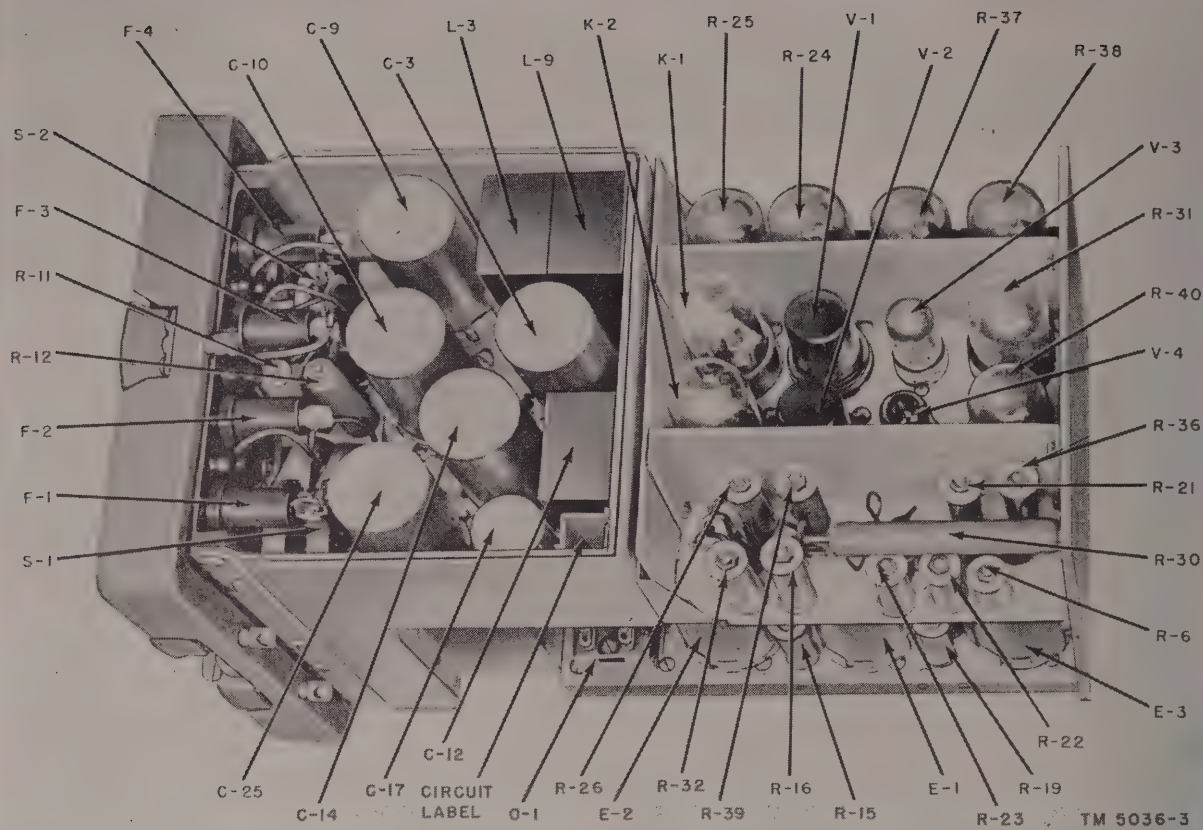

Figure 44. Power Supply PP-112/GR, top view of chassis.
- (4) A high reading for all filaments on positions 7 through 11 may be due to a faulty V-1. A high reading on position 2 through 6 may be due to a faulty V-11. A low reading for all tubes may be due to the operation of the overload relay in the power supply or trouble in the power supply itself. Turn the equipment off for a full minute to allow the thermal relay to cool if it has operated because of a momentary overload. If after turning the equipment on, a fault is still indicated, continue with the following checks. Check fuse F-1, thermal relay K-2, and ballast tubes R-31 and R-40 in the power supply if readings are low on positions 7 through 11. (Ballast tube R-40 is included only in Power Supply PP-112/GR.) If all the readings are very low or zero on positions 2 through 6, check fuse F-1, thermal relay K-1, and ballast tubes R-24, R-25, R-37, and R-38 in the power supply (figs. 44 and 45). (Ballast tubes R-37 and R-38 are included in Power Supply PP-112/GR only.)
b. THERMAL RELAYS AND BALLAST TUBES. To gain access to the thermal relays and ballast tubes, it is necessary to remove the panel-chassis assembly from the case (par. 96). All of these parts are accessible from the top of the chassis (figs. 44 and 45). Remove the relays or ballast tubes by a straight upward pull. Do not rock or jiggle the components in their sockets. (Note that similarly designated parts are located differently in the 12- and 24-volt supplies.)